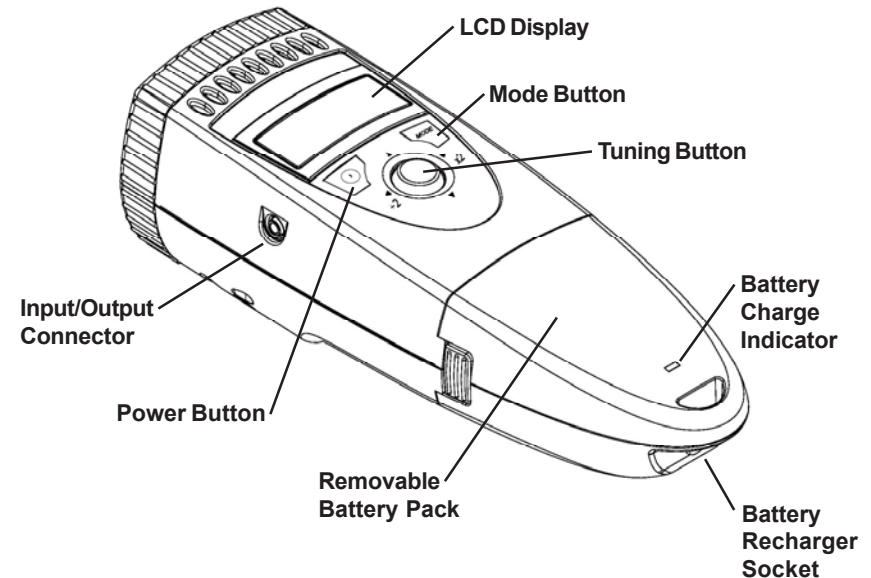

Figure 2 PALM STROBE x
2. Plug the recharger cable into the battery recharger socket on the Battery Pack (see Figure 2 for location).